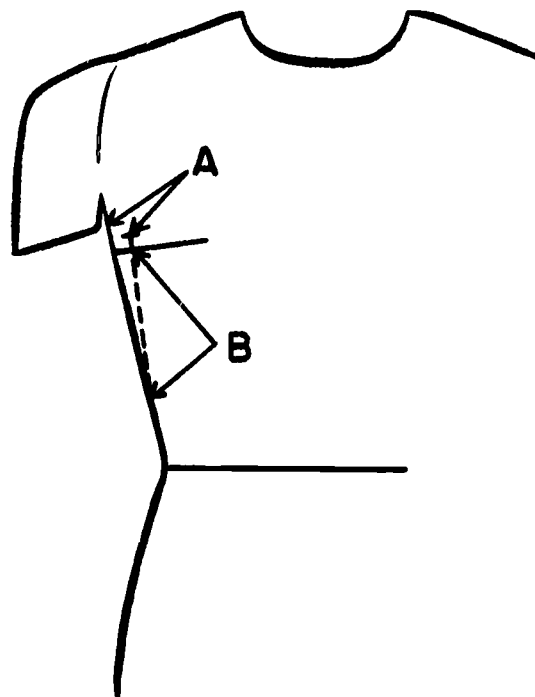

Figure 34.
2. In most cases, the alteration will be marked with pins instead of chalk. Measure and record the distance from the pins to the seamline at the bust line (A in Figure 34). Then measure the length down the side seam that the garment is to be taken in and record this measurement (B in Figure 34). Remove the pins.